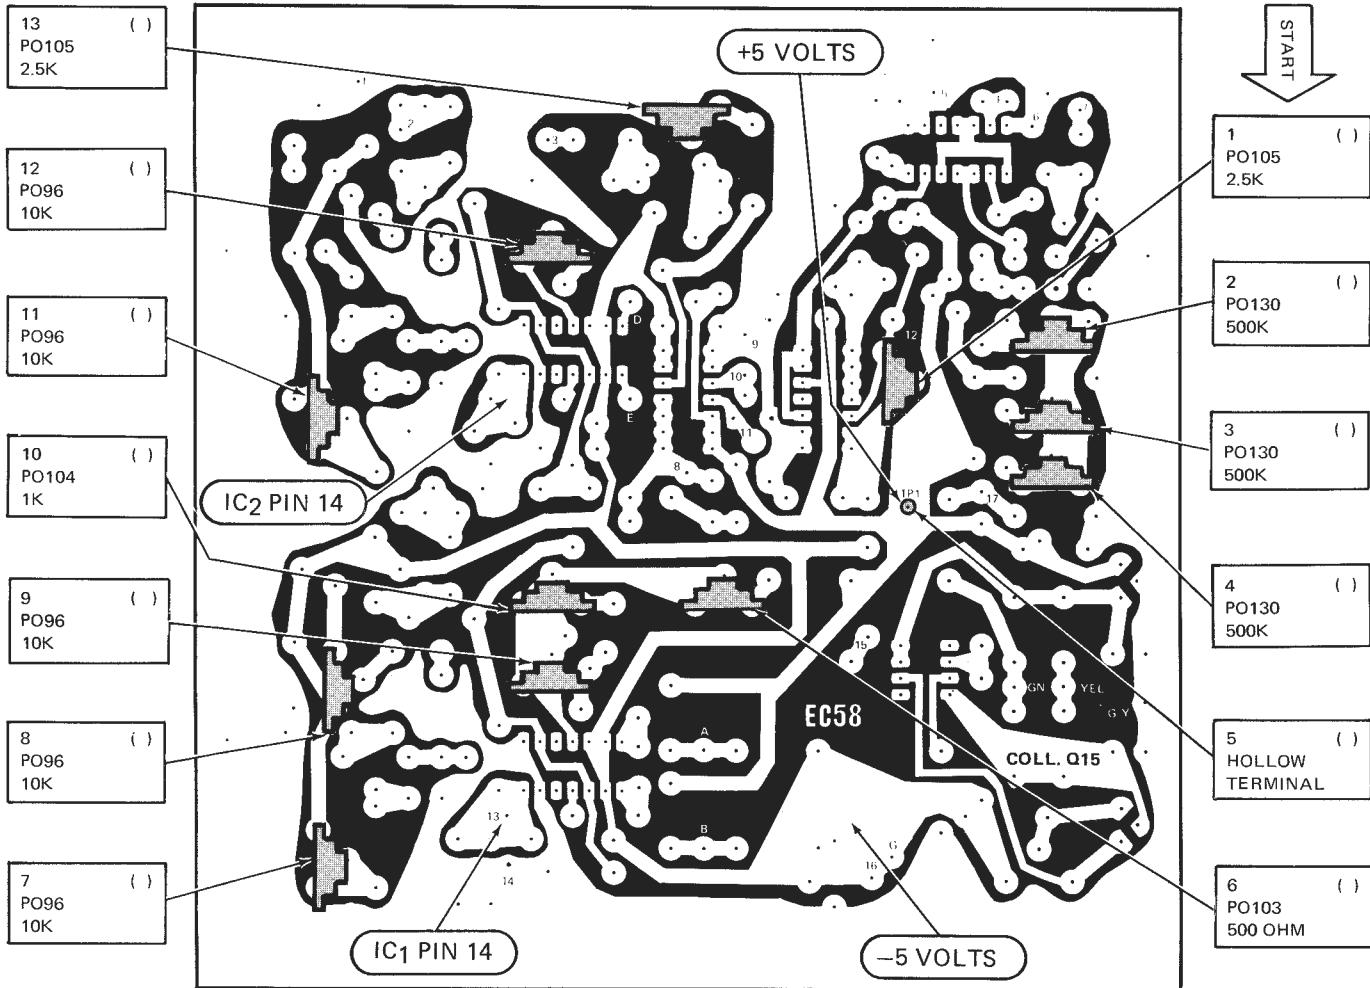
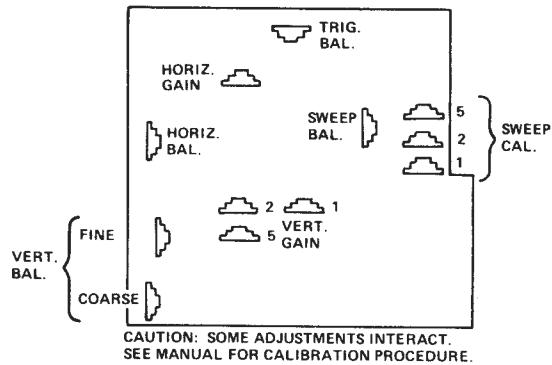

Fig. 6. Installing components on the foil side of EC58.
Fig. 37. Internal control identification.
First, measure the voltage at Pin 14 of IC1 (see Fig. 6, page 8) with a voltmeter set to its lowest range. As you monitor this voltage, carefully adjust the coarse and fine vertical balance controls (see Fig. 37) until this voltage is exactly zero. Now monitor the voltage at Pin 14 of IC2 as you adjust the horizontal balance control (Fig. 37) for zero volt at this point. This adjustment should be made with the horizontal positioning control on the front panel set to the center of its adjustment. After you have made both of these adjustments, unplug the oscilloscope from the ac outlet and install the two IG36 (733) integrated circuits in the two empty IC sockets (IC1 and IC2) on the front circuit board. Note that Pin 1 (the notched end) of each IC must be towards the front of the oscilloscope. Make sure that all the IC pins are plugged into the socket and that the integrated circuit is fully seated in the socket.
Remove the clip lead from the low-voltage ac test point and very carefully clip it to the center terminal of the Slope switch. This is the terminal with the single-conductor cable attached. Make sure the Trigger Level knob on the front panel is centered with the dot straight up at "0," then slowly adjust the TRIG BAL control (see Fig. 37) while you watch the screen. As you adjust this control you should see the horizontal line on the screen split into two parts, one above the other connected by a short vertical space. The space should move left and right as you rotate the TRIG BAL control back and forth, causing the two horizontal line segments to increase and decrease in length.
horizontal gain (HORIZ GAIN) potentiometers which are also located on the front circuit board as shown in Fig. 37. First switch the Sweep Source to EXT and make sure the dot is centered on the crt screen. Use the horizontal and vertical position controls to accomplish this. Now set the Sweep Source switch to INT and the Trigger Source switch to LINE. Next adjust the sweep balance (SWEEP BAL) potentiometer counterclockwise. You should see the left end of the line move to the left on the crt screen. Continue turning the potentiometer until the left end of the line almost coincides with the first vertical line of the graticule. Now turn the horizontal gain control until the left end of the line touches the first vertical line of the graticule, and the right end of the line touches the last vertical line of the graticule. Alternately adjust the SWEEP BAL and HORIZ GAIN Controls so that the horizontal line extends from the leftmost to the rightmost vertical lines of the graticule. When you have reached this condition, the SWEEP BAL and HORIZ GAIN are correctly adjusted.
Now that you have established the gain of the horizontal amplifier, you can proceed with the sweep calibration. Set the TIME/CM switch to its 5 milliseconds (5 mS) position and the Variable Sweep control fully clockwise. Now adjust the top sweep calibrate potentiometer (5 in Fig. 37) until you see three complete cycles of the input waveform from the extreme left
Refer to Fig. 41 for the following steps. Set the vertical input switch to the GND position and the VOLTS/CM switch to the "5" position. Adjust the vertical position control so that the line coincides with the center horizontal line on the graticule. Now move the input switch to DC and you will notice that the line moves up. Adjust the vertical gain calibrate potentiometer, labeled 5 in Fig. 37, so that the line moves up exactly one centimeter (to the next line on the graticule). There will be some interaction between the gain adjust potentiometer and the vertical position control, so switch back and forth between GND and DC several times, each time readjusting the position and gain calibrate controls so that the line moves exactly one centimeter each time the switch is thrown.